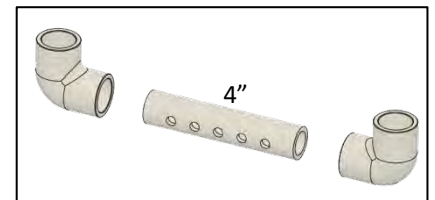

Figure 35
- Connect two elbows to the remaining 4" long thruster mounting pipe. (Figure 35) Make sure the holes in the elbows are facing downward.